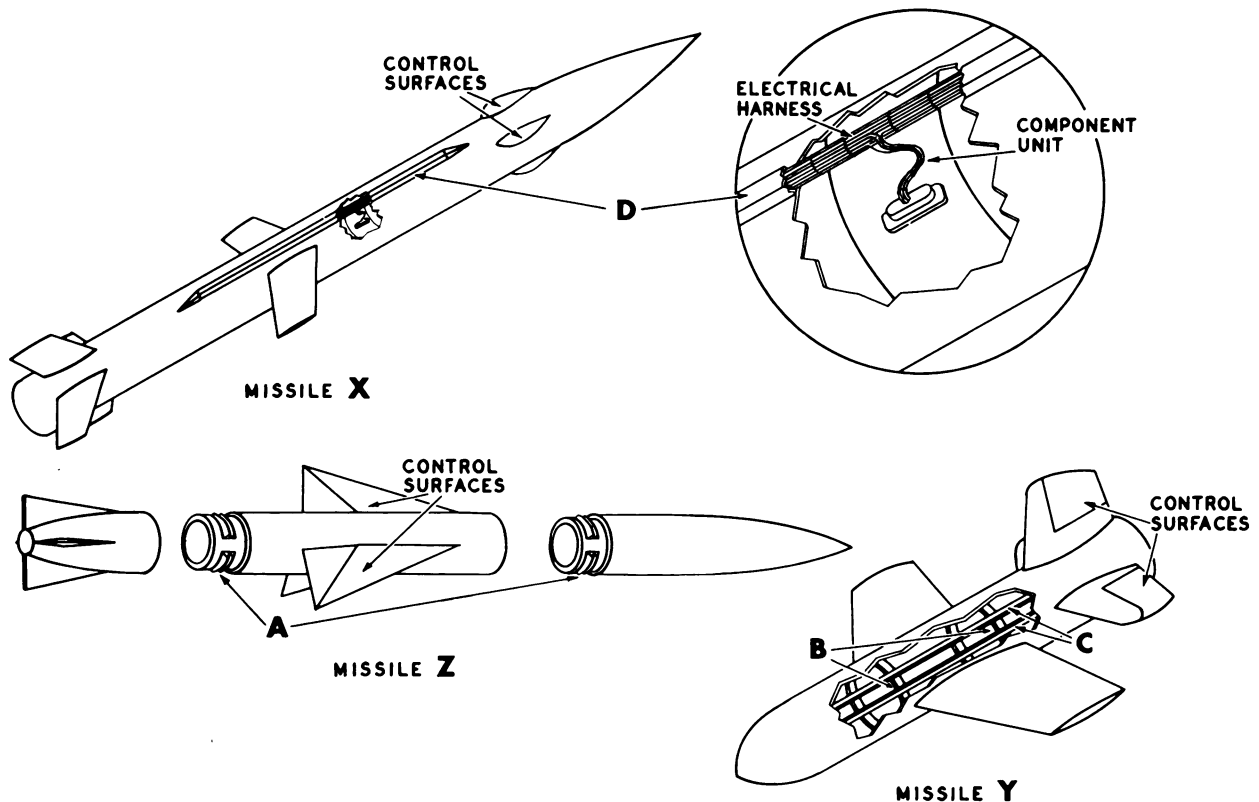

Figure 2A.
- The fact that missile X and missile Z in figure 2A have noses that narrow to a point in ogive curves indicates that these missiles are designed to
- Which of the three missiles shown in figure 2A is likely to be slower than the other two?
- The term "boattailed" is used to describe which of the missiles in figure 2A?
- The term "canard airframe" applies to which of the missiles in figure 2A?
- The fuselage of missile Y in figure 2A represents the type of construction known as
- What is the proper term for a reinforcing bulkhead like the one designated by the letter B in figure 2A?
7. In figure 2A, the reinforcing ribs designated by the letter C are known as
8. The metal fairing designated by the letter D in figure 2A serves to house the electrical harness that connects missile components. This fairing assembly is known as
9. In figure 2A, an illustration of the breech-lock connection of missile sections is designated by the letter